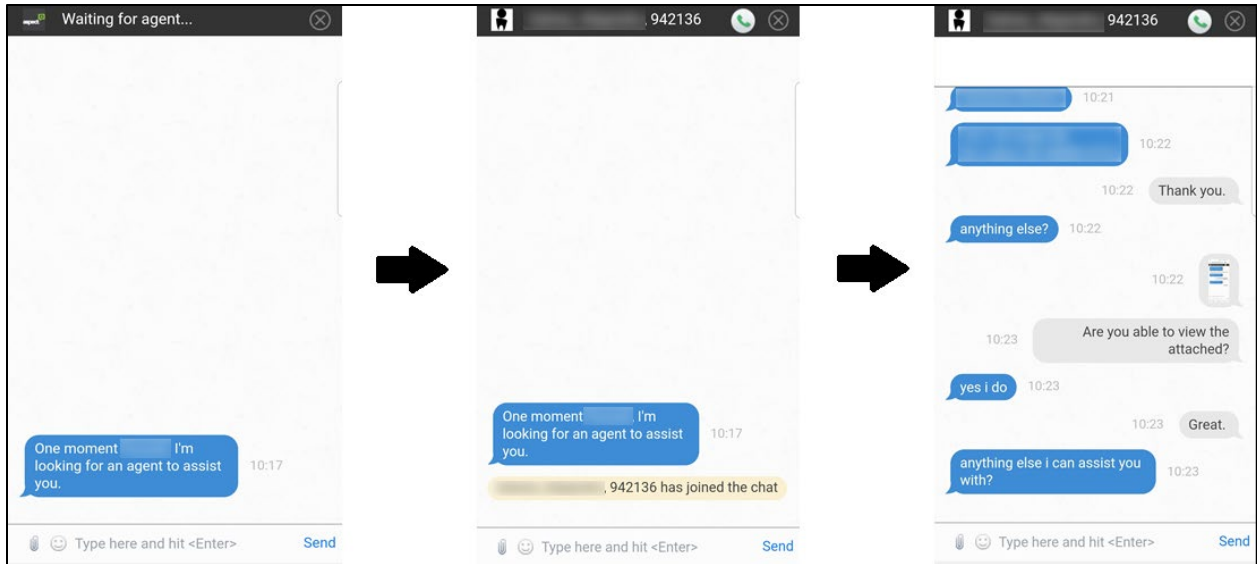

Figure 14: Chatting with an agent
3. Selecting Live Chat will notify an agent to connect to the chat, as shown in Figure 14. You can discuss whatever issue you are currently experiencing with the agent and work together to correct the issue.